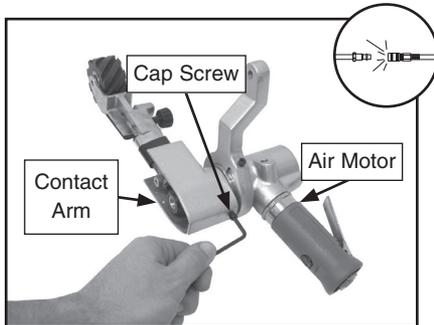

Figure 3. Installing the contact arm.
2. Slide the contact arm assembly onto the air motor, making sure it is snug against the shoulder, as shown in **Figure 3**.